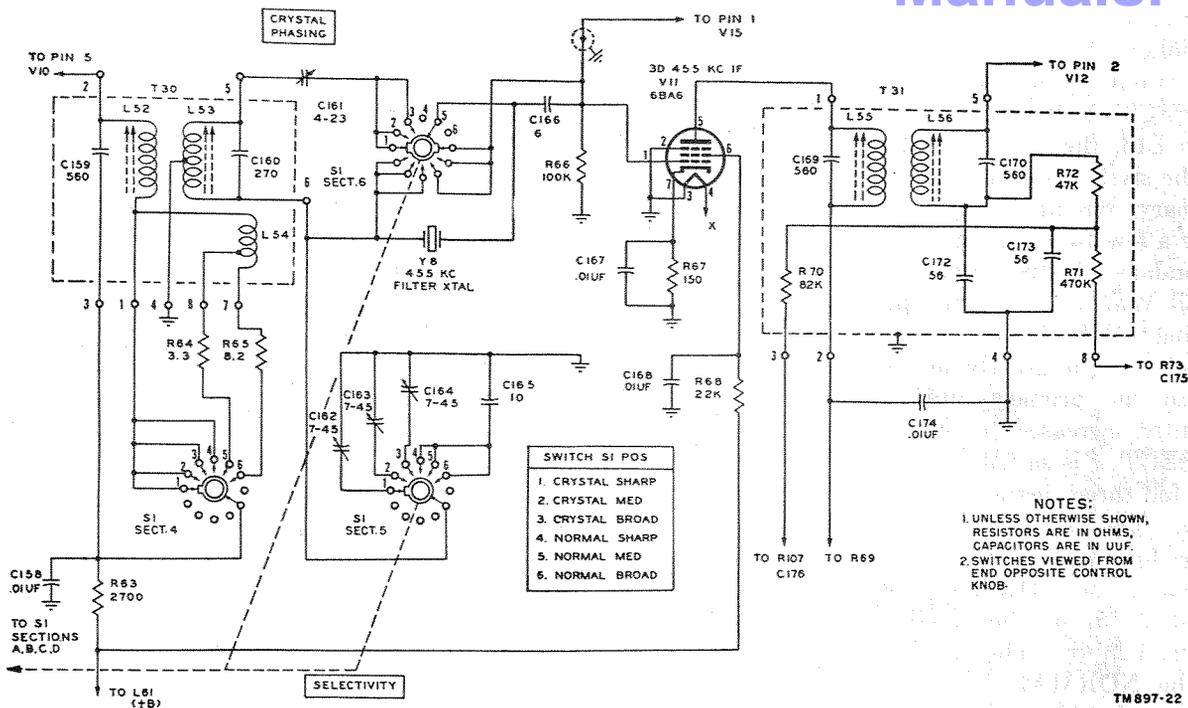

Figure 22. Radio Receiver R-274/FRR, functional diagram of 3d 455-kc i-f stage and crystal filter.
- (1) The 3d 455-kc i-f amplifier circuit is shown in figure 22. R66 is shown as the grid leak resistor for tube V11. Resistor R67 is the cathode resistor which keeps the total cathode current within safe limits and develops the bias under which the tube operates. Capacitor C167 is the cathode bypass which effectively grounds the cathode at intermediate frequencies. R68 is the screen voltage-dropping resistor, and capacitor C168 effectively grounds the screen of tube V11 at intermediate frequencies. The output of tube V11 goes to primary L55 of the 4th 455-kc i-f transformer T31. This primary circuit is resonated by capacitor C169. It is returned to +B through resistor R69, which with capacitor C174, forms a filter which prevents the signal in the plate circuit of tube V11 from getting into other circuits of the receiver.
- (2) The signal in the primary of transformer T30 is coupled inductively to the secondary which is resonated to 455 kc by capacitor C160. Note that this second-
b. *Crystal Operation.* Switch S1 SECT. 5 and SECT. 6 (fig. 22) determine whether the operation includes or bypasses the 455-kc filter crystal. The total voltage across the secondary (L53) of transformer T30 can be thought of as two separate voltages. The first is the voltage from ground to the top portion of L53. This voltage sends i-f current through capacitor C161, through the parallel combination of resistor R66 and the input capacities of tubes V11 and V15, and back to ground. The second voltage is that from ground to the lower end of L53. This voltage sends a signal through crystal Y8 through R66 in parallel with the input capacities of tubes V11 and V15, and back to ground. At signal frequencies different from its series resonant frequency, crystal Y8 acts like a pure capacity. Therefore, since the
two secondary voltages (in L53) are opposite in phase, the two currents through resistor R66 tend to cancel each other. In fact, when the phasing capacitor (CRYSTAL PHASING) C161, is adjusted accurately, these currents do cancel, and the voltage at the grids of tubes V11 and V15 is zero. Near series resonance, crystal Y8 does not behave like a high capacitive reactance but rather like a relatively low resistance. Therefore, the two currents will have a smaller phase difference as well as a considerable difference in amplitude, and some signal voltage will be developed in the input circuits of tubes V11 and V15. Because its  $Q$  is high, the losses in crystal Y8 are very small and therefore, the frequency range over which the voltage unbalance occurs is quite small. This is the reason for the high degree of selectivity of a crystal filter. To some extent, the equivalent resistance in the secondary circuit of transformer T30 affects the operation of the crystal filter. When this resistance is high (as it is when inductance L53 and capacitor C160 are *exactly* resonant at the series resonant frequency of crystal Y8), the selectivity curve is broadened, because the effective circuit  $Q$  is lowered. The bandwidth of the crystal filter circuit can be varied by the degree of mistuning of the secondary circuit of transformer T30. This is done to vary the bandwidth from 200 cycles to 500 cycles to 1,500 cycles as the selectivity switch is changed from CRYSTAL SHARP to CRYSTAL MEDIUM to CRYSTAL BROAD. When selectivity switch S1 SECT. 5 is in the CRYSTAL SHARP position (fig. 22), capacitor C162 is across part of the secondary of transformer T30. It is adjusted so that the secondary is mistuned just enough that the bandwidth is 200 cps. In the CRYSTAL MEDIUM position, capacitor C163 is in the circuit, adjusted to a different capacity, and the bandwidth is 500 cps. In the CRYSTAL BROAD position, capacitor C164 is in the circuit, and the mistuning of the secondary of T30 is very slight, therefore, the bandwidth is 1,500 cps. In actual operation of the receiver, the phasing control (capacitor C161) can be adjusted to give a high degree of rejection at a frequency slightly different from that at which maximum response occurs. Furthermore, the exact frequency at which this rejection occurs can be varied. This characteristic can be used to reject an undesirable signal which is at a frequency close to the frequency of the desired signal.
fied equivalent of the 3d 455-kc i-f amplifier circuit (crystal filter), together with SECTS. 5 and 6 of S1, when the selectivity switch is in NORMAL SHARP position, can be pictured by considering all the sections of switch S1 to be placed in position 4 (NORMAL SHARP) (fig. 22). The voltage in the lower part of L53 is sent to the grid of tube V11 through capacitor C166. Capacitor C166 has a low value (6 uuf (micromicrofarad)) so that the gain under noncrystal conditions will be in the proper proportion to the gain under crystal operation. Capacitor C165 replaces variable capacitors C162, C163, and C164 which were in the circuit for crystal operation.